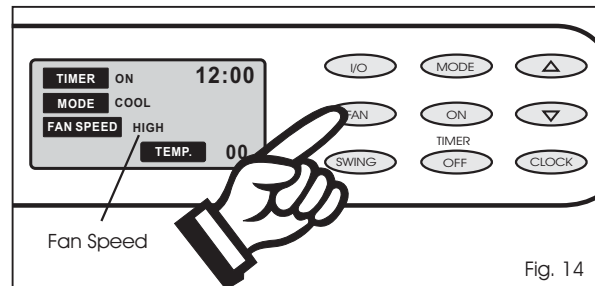

Fig. 14
- 5) Press the **FAN** key to select the desired fan speed setting (**High-Med-Low**). See Fig.14. Your selection will be displayed in the **LCD** window (each depression of the fan key will advance to a different setting).